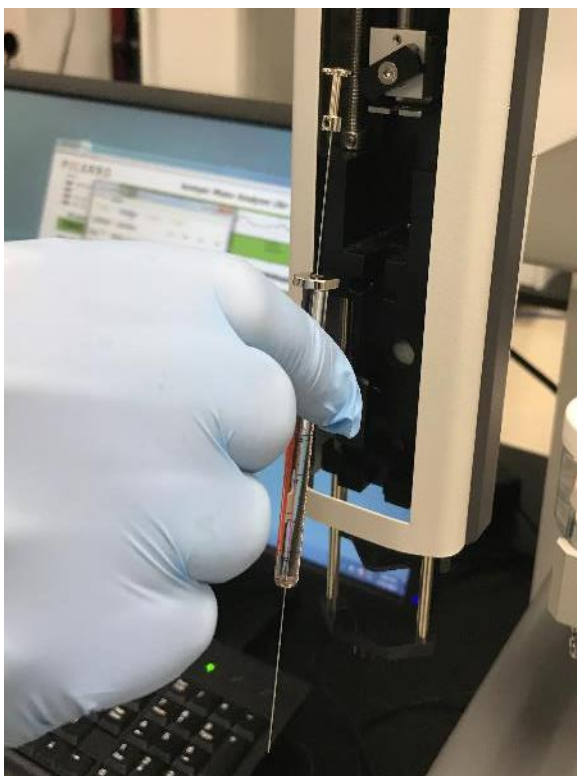

Figure 129. Handle by the Syringe Body.
STEP 9 | Handling by the syringe body (**Figure 129**), carefully remove the old syringe, sliding the plunger head and top body flange from their recesses.